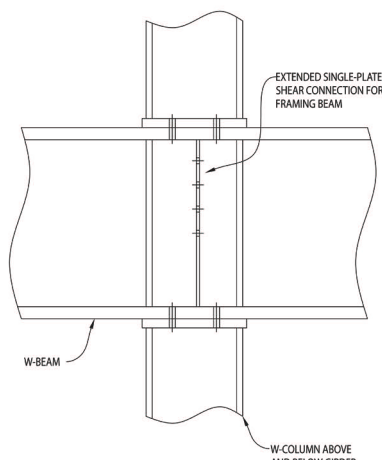

Figure 4. Stacked Column at Large Cantilever
27. For a large floor cantilever/beam, consider stacking the columns as illustrated in **Figure 4**. This may be easier than reinforcing the column supporting the cantilever and having two large moment connections in the field.